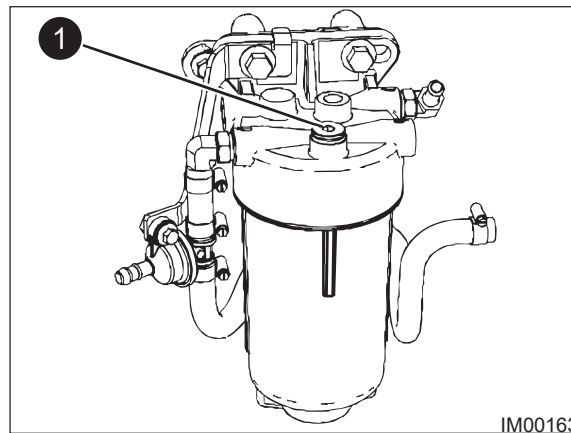

Fig: 11.22 - Secondary Fuel Filter
3. Loosen the Vent Screw (Item 1, Fig: 11.22) on the secondary fuel filter.
- ◇ *The Ignition Switch will allow the electric priming pump to operate. When fuel free from air comes from the vent screw (Item 1, Fig: 11.22), tighten the vent screw to a torque of 24 Nm (212. lb in).*